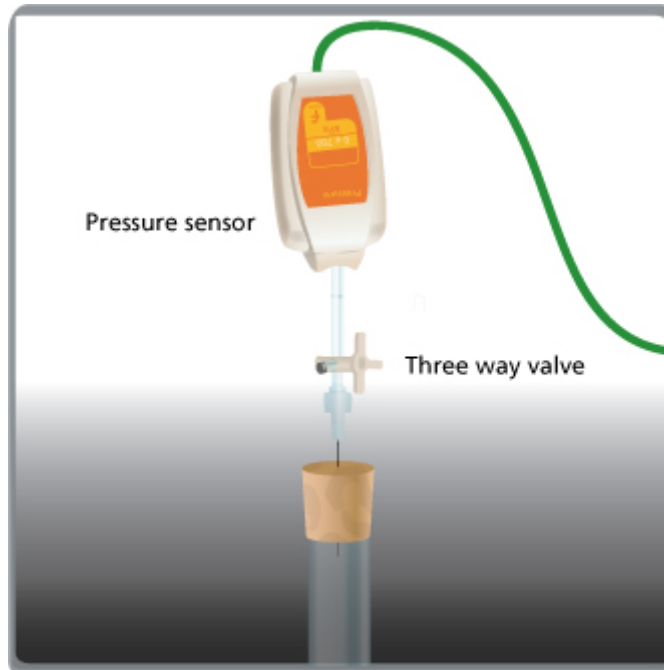

Figure 2
- e. Insert a syringe needle (no 23) through each cork, until its tip comes out of the cork (see figure 2)
- f. Connect each syringe needle to a three way valve with a short piece of latex tube (see figure 2)
- g. Connect each valve to a pressure sensor (see figure 2)